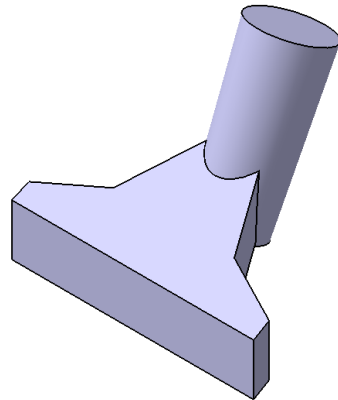

Figure 5-78 Resulting second feature
8. Clear all the radio buttons available in the **Fillets** area and choose the **OK** button from the **Drafted Fillet Pad Definition** dialog box. The model, after creating the second feature, is shown in Figure 5-78.